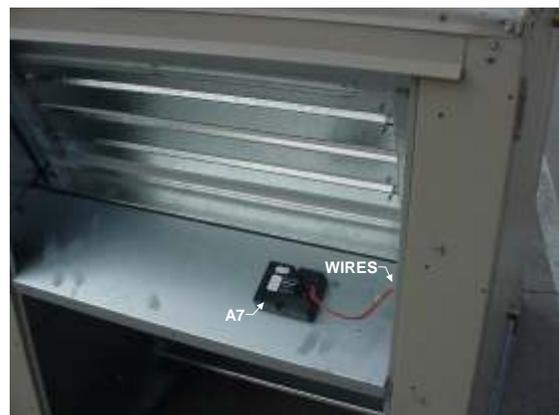

Figure 2
4. The economizer may use an A7 enthalpy sensor located on the division panel between the economizer outdoor air and return air dampers. If present, the sensor must be moved to the intake air section of the ERS. Disconnect sensor A7 wires from logic module, remove screws securing the sensor, and retain sensor assembly and screws. **See Figure 2.**